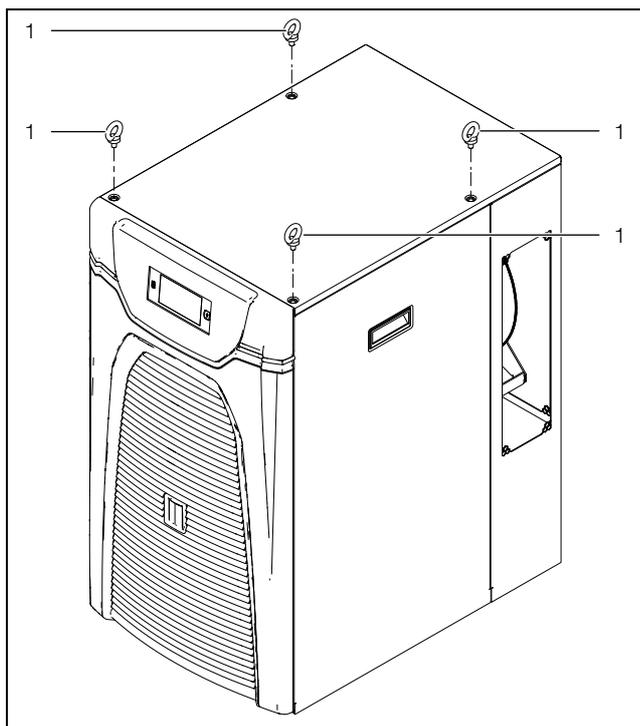

Fig. 27: Eyebolt for transportation (3319100 and 3320200)
- Only transport the chiller on the pallet supplied with the chiller or with the eyebolt provided (fig. 27, item 1).